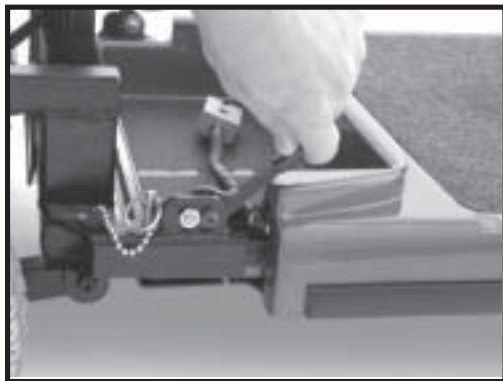

Figure 22. Locking Cam Levers (Unlocked Position)
- Push the locking cam levers forward to the unlocked position and remove the ball detent pins. See figures 22 and 23.